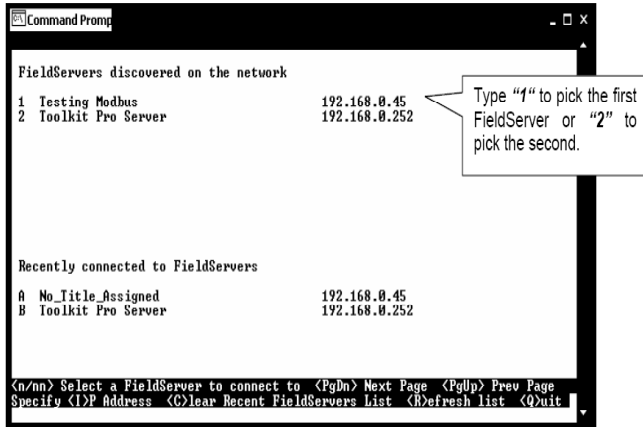

Figure 13: RUINET PT-Link Selection Menu
7.) On subsequent connections, a list of PT-Links that have been recently connected may appear under the message “Recently connected to FieldServers. Select the required PT-Link by *typing* the Number or Letter in the left hand column. (Figure 13).